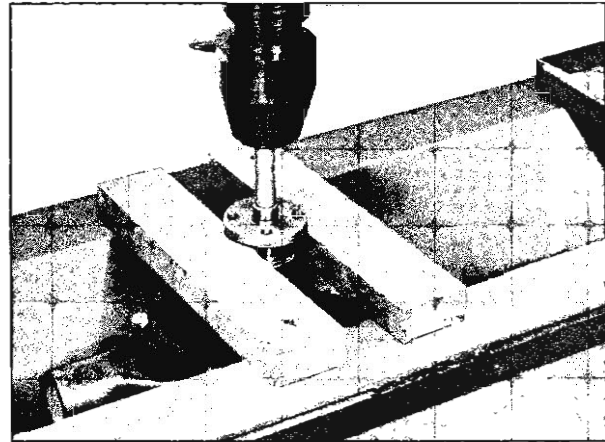

Fig. 193—Removing Fan Hub
6. Support fan hub in an arbor press and press pump shaft out of hub. A $\frac{1}{2}$ " x 2" bar will allow the shaft to be pushed through the hub. See Figure 193.